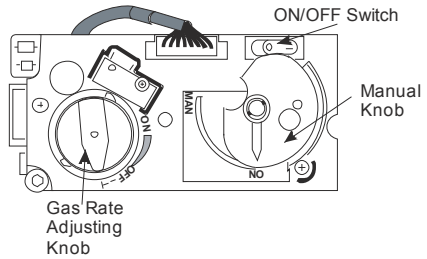

Figure 10 – Total Control Gas Valve
2. Simultaneously press and hold the  (red circle) and  (large flame) buttons until a short acoustic signal confirms the start sequence has begun, then release the buttons (see **Figure 10**).